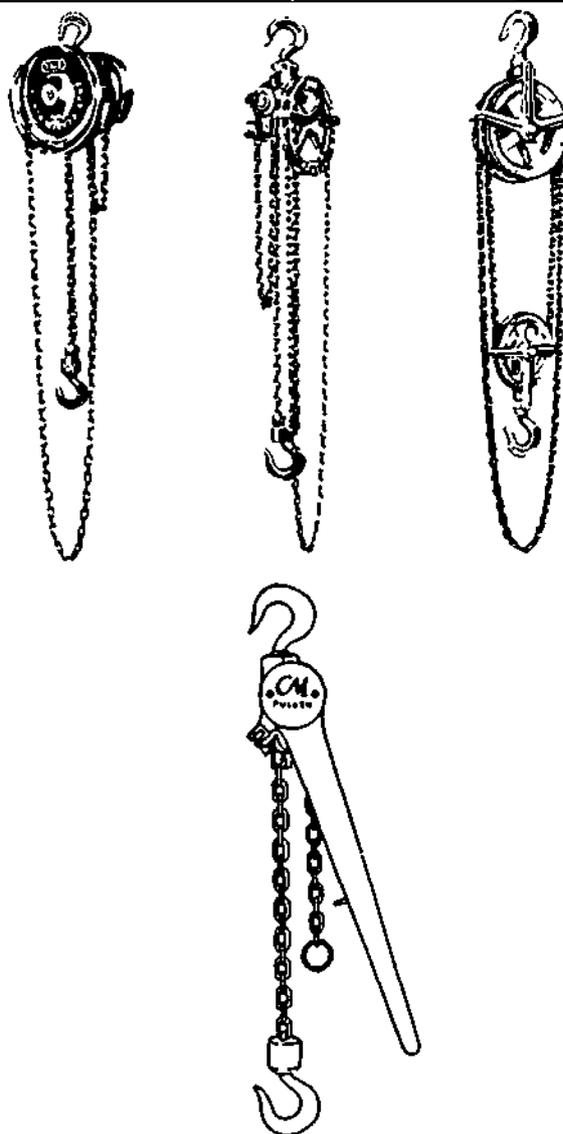

Figure 2-5. Hoisting Mechanisms
b) Figure 2-5 shows three types of chain blocks and a come-along.